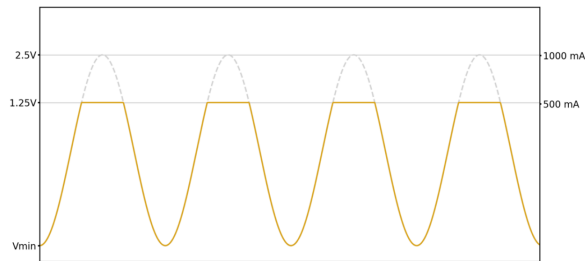

Figure 16.82: Cropped LED excitation signal
- **Custom** - this setting allows users to manually adjust the **Vmax** and **Vmin** of the LED, regardless of **LED's maximum current**. Care should be taken to remain below the maximum voltage, or the excitation signal will be cropped at the true maximum value (see Fig. 16.82).